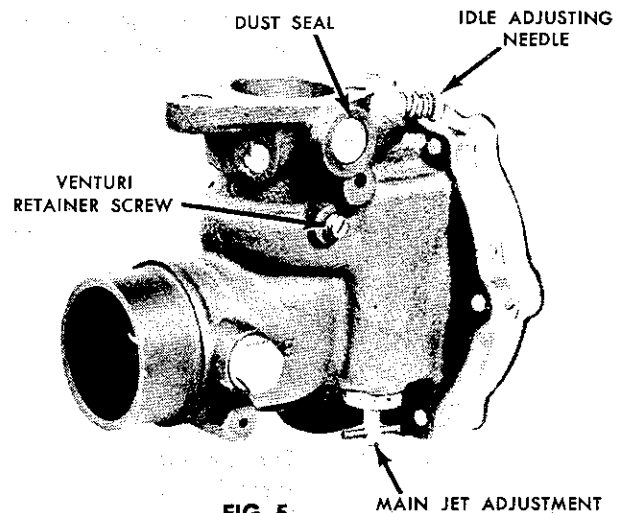

FIG. 5
5. Take out venturi retainer screw and remove venturi. Fig. 5.
7. Remove idle adjusting needle and spring. Fig. 5.